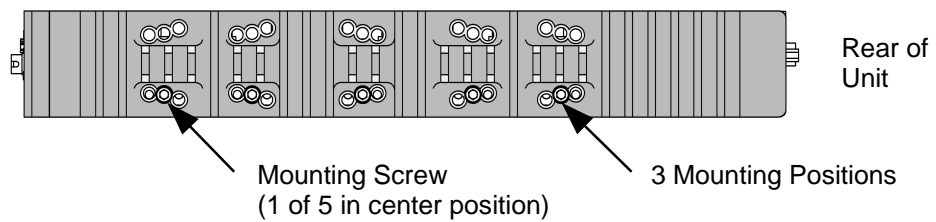

Figure 7 – Model 708 Side Panel - Base Plate Mounting Screws
8. Repeat Steps 2 through 7 for each of the eight (8) devices.
9. Neatly gather and wind all optical fibers in a coil in the center of the unit as shown in Figure 7 below.